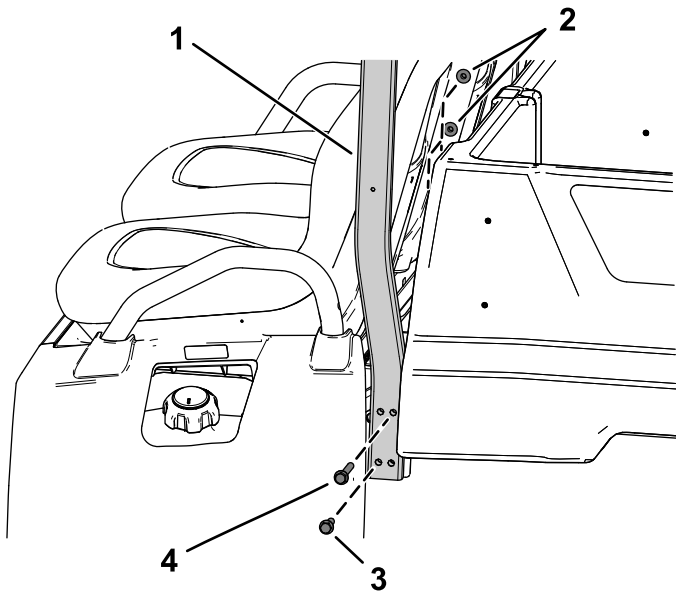

Figure 12
- Loosely install the 2 rear mounting tubes using 2 flange-head bolts (3/8 x 3-1/2 inches), 2 flange-head bolts (3/8 x 1-3/4 inches), and 4 locknuts (3/8 inch) as shown in Figure 12.